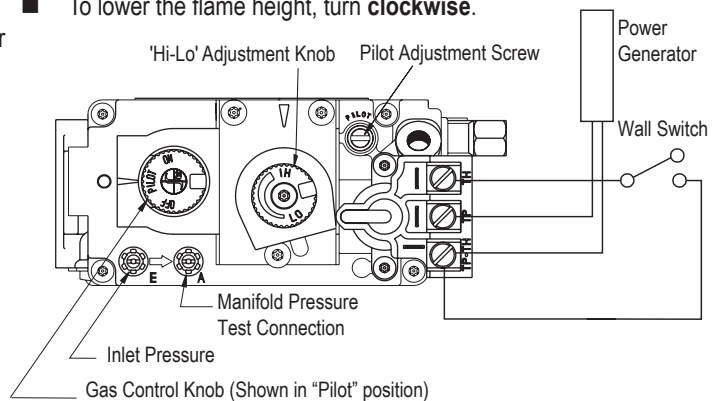

Figure 30. 'Hi-Lo' Adjustment on the SIT Nova 820 gas valve.
The H*38DF* is equipped with an adjustable burner, allowing you to raise or lower the flames. To adjust the flames, locate the black knob marked 'Hi-Lo', in the centre of the gas control valve (See **Figure 30**).
1. Locate Pilot Adjustment Screw. (See **figure 30 or 31**.)
Pilot won't ignite	Disconnect remote wires and try to light pilot. If pilot now works, remote connections are faulty. Check wiring diagram figure 30 .
Main burner will not light	1. Check wiring (see figure 30). 2. Check wall switch for proper connection.